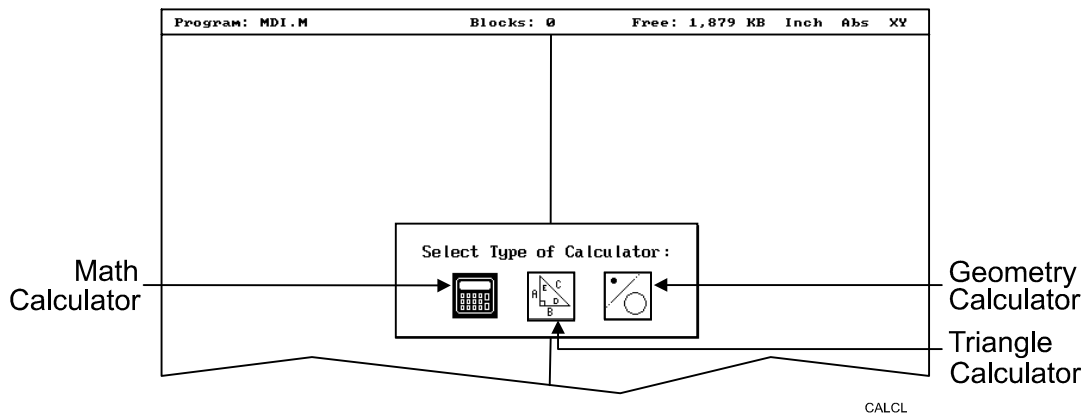

Figure 6-1, Select Type of Calculator: Pop-up Menu
1. In Edit Mode, press **Calc (F7)** to display the **Select Type of Calculator:** pop-up menu. Refer to **Figure 6-1**.